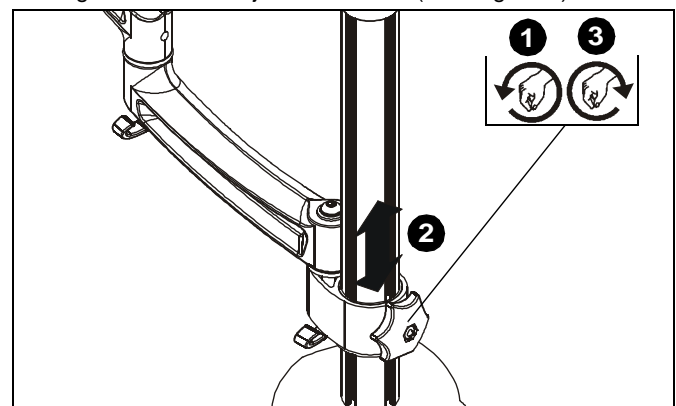

Figure 9
1. Loosen column adjustment knob. (See Figure 9)
2. Adjust height to desired level. (See Figure 9)
3. Tighten column adjustment knob. (See Figure 9)